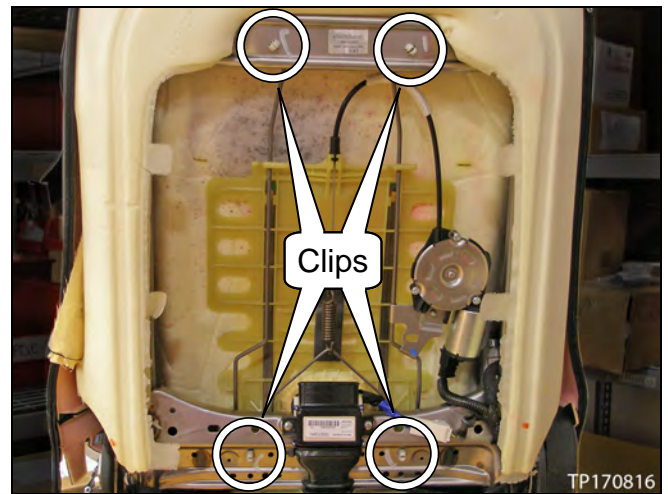

Figure 15
7. Unfasten the four (4) clips.
- Clips are circled in Figure 15.